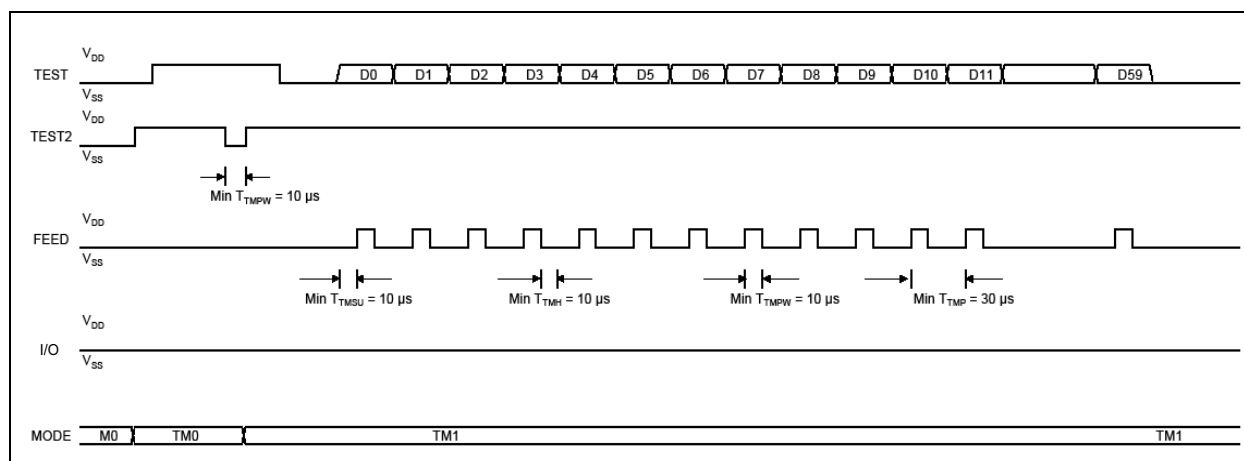

FIGURE 4-2: Timing Diagram for User Feature Selection in Serial Read/Write Mode TM1.
7. After the data are entered into the shift register, pulse I/O high for a minimum of 10 ms to store the data in EEPROM. The timing diagram is shown in Figure 4-2.